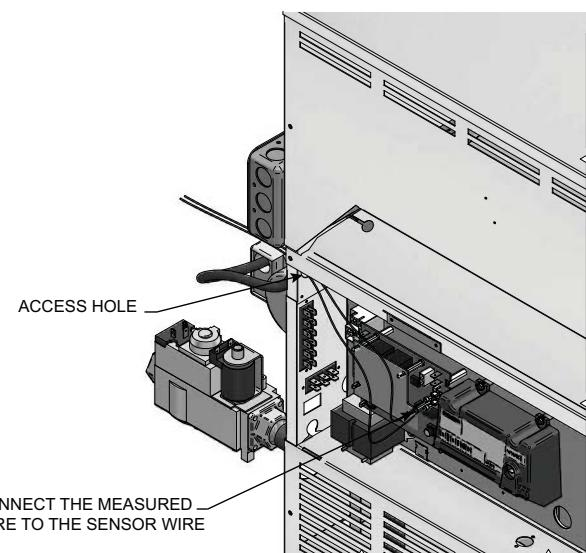

Figure 5-4_Installation of Remote Sensors
5. Connect the measured wire to the sensor wire using wire caps (see FIG. 5-4). Install .250 x .032 insulated female quick connect terminals to the end of the wires. Feed the wires through the access hole located on the back of the unit and secure the connectors to the thermostat connections (Sys/Tank) CN5 and CN6 located in the upper right-hand of the thermostat.